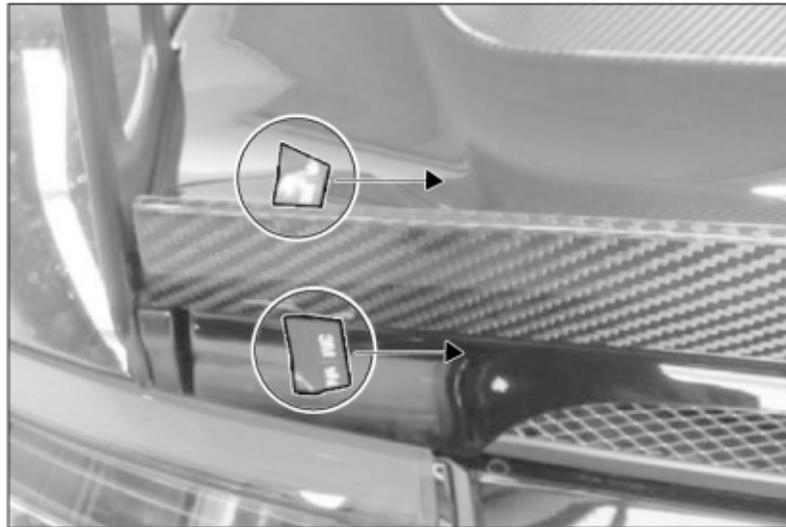

Figure 68
42. – Remove approx. 5 cm (1.97 in) of the backing film from the adhesive strip on the gurney and position this piece of the film such that it protrudes when the gurney is attached ⇒ Figure 68.
against the trunk lid ⇒ *Figure 68*. **Note:** Press the adhesive surfaces as flat as possible for at least 10 seconds